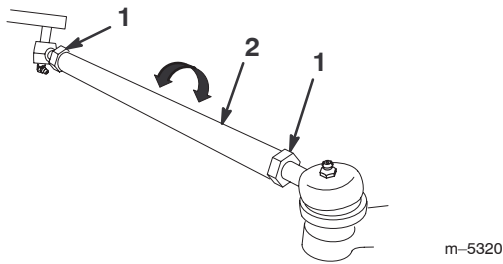

Figure 35
- If the measurement does not fall within the specified range (refer to the dimensions and parameters at the beginning of this procedure), loosen the jam nuts at both ends of the tie rods (Fig. 35).